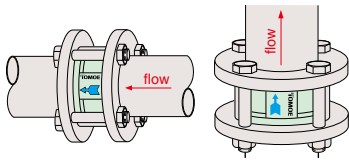

Fig.1
[Fig.1]
- After fixing center of both flanges, insert piping bolts and put the valve. (Fig.1)
- Install the valve so that the cast marking on the body of the Bata-Check corresponds with the flow direction. (Fig. 1)